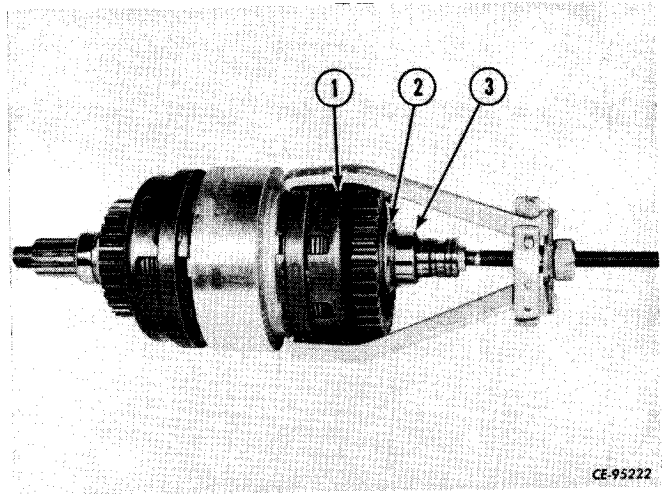

Figure 4-91
Remove the bearing inner race (3, Fig. 4-91), bronze thrust washer (2) and drive gear assembly (1) using a suitable puller. Repeat this operation at the opposite end of clutch pack.